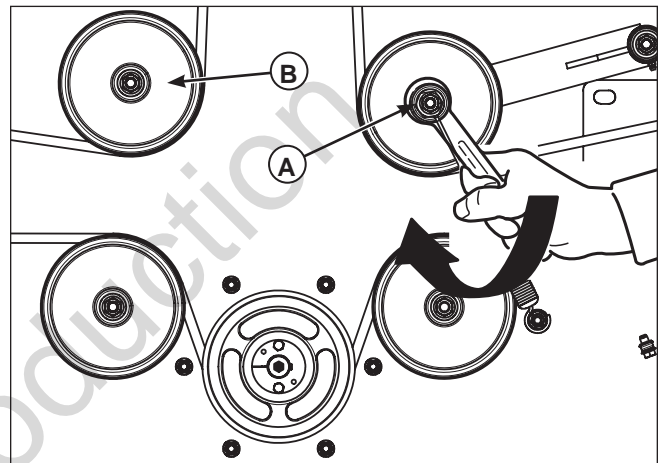
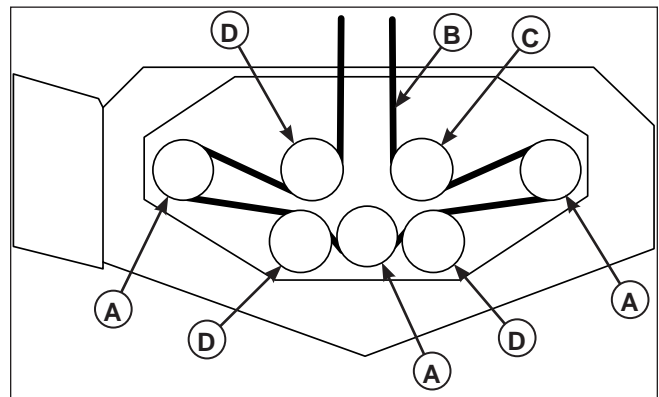

Figure 55. Mower PTO Belt (72" Mower Deck)
Figure 56. Mower PTO Belt Routing
2. **For 72" deck:** Using a 3/4" combination wrench, place the box end on the nut (A, Figure 55) securing the idler pulley located in the end of the idler arm. Carefully rotate the wrench CLOCKWISE, which will relieve the tension on the belt exerted from the idler arm.
3. Slide the drive belt over the edge of the stationary idler pulley (B). Carefully release the tension on the breaker bar or combination wrench until the idler arm comes to a stop.
4. Remove the old belt and replace with a new one. Make sure the V-side of the belt runs in the pulley grooves (Figure 56).
5. **For 72" deck:** Install the drive belt on the PTO pulley, the spindle pulleys and all idler pulleys except the stationary pulley (B, Figure 55). Carefully rotate the combination wrench CLOCKWISE and install the belt on the stationary idler pulley (B). Carefully release the tension on the combination wrench.